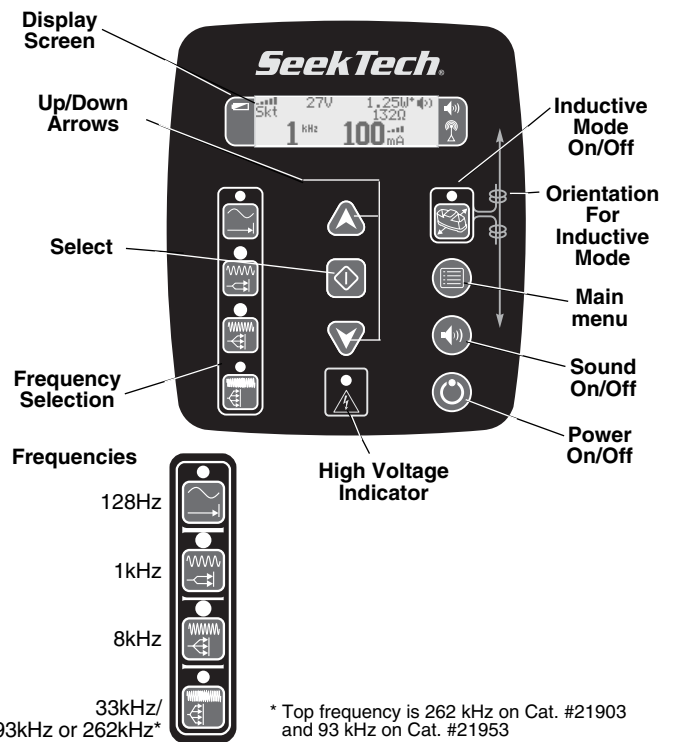
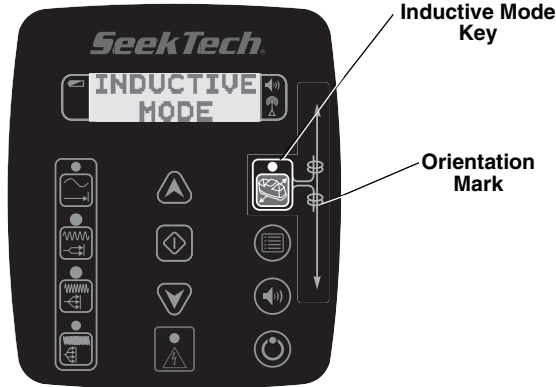

Figure 4 – Keypad
Figure 14 – Inductive Mode Key
5. Press the POWER ON/OFF button on the keypad to turn the transmitter on. As the power comes on, the transmitter will emit ascending beeps. The transmitter will pause to measure how much current is flowing onto the target conductor. The faster the beeping, the higher the detected current. To turn the beeping off, press the sound key. (See Figure 4).
- Press the POWER ON/OFF button on the keypad to turn the transmitter ON. As the power comes on, the transmitter will emit ascending beeps. Press the Inductive Mode Key. The display screen will read "INDUCTIVE MODE". (See Figure 14). The transmitter will make a short buzzing sound when shifting into Inductive Mode, and after that, will make double beeps during inductive mode operation. If desired turn the beeping off by pressing the sound key (See Figure 4).